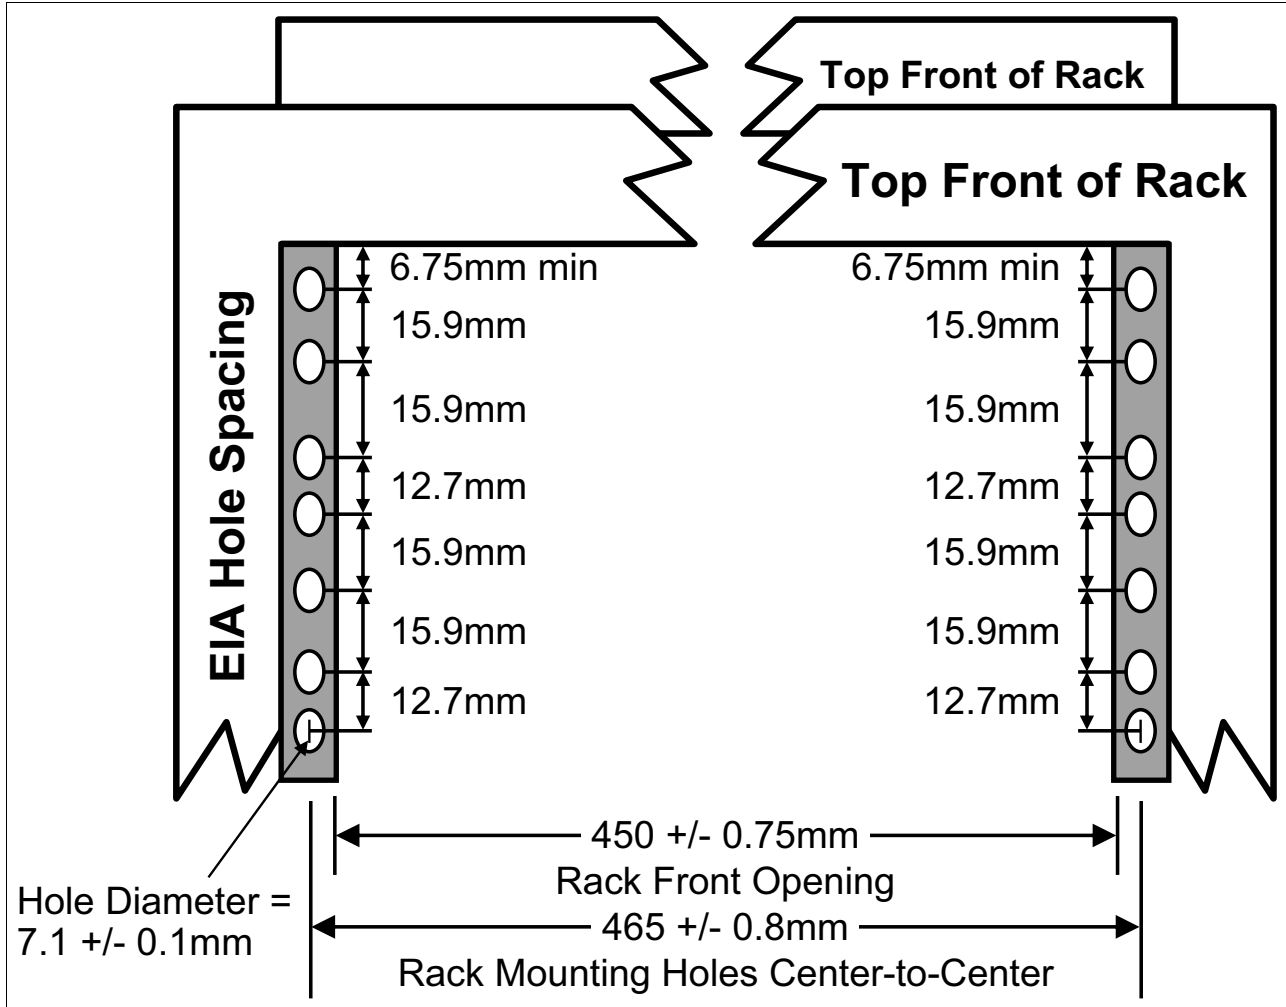

Figure A-5 Rack specification dimensions top front view
- ▶ The vertical distance between the mounting holes must consist of sets of three holes spaced (from bottom to top) 15.9 mm (0.625 in.), 15.9 mm (0.625 in.), and 12.67 mm (0.5 in.) on-center, which makes each three-hole set of vertical hole spacing 44.45 mm (1.75 in.) apart on center. Rail-mounting holes must be 7.1 mm ± 0.1 mm (0.28 in. ± 0.004 in.) in diameter. Figure A-5 shows the top front specification dimensions.